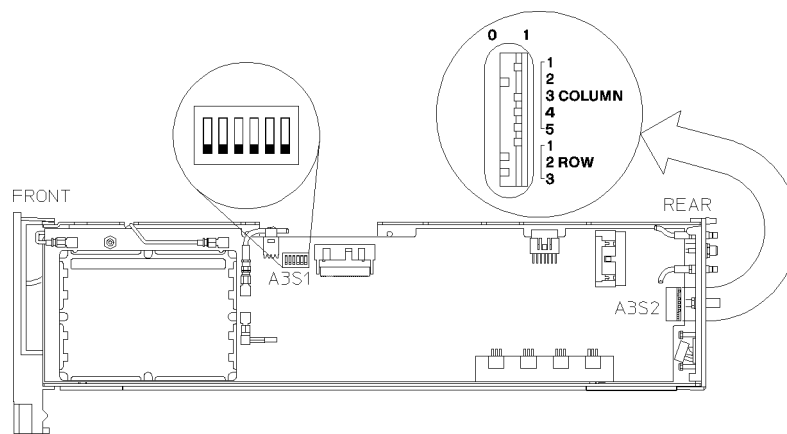

Figure 1-8. S1 and S2 Settings
2. Check the address settings. See Figure 1-8.
4. Make sure switches S1 and MSIB address switch, S2 are set correctly. Make sure no other MMS device connected to your MMS system has the same address. The original factory set switch settings are shown in Figure 1-8.